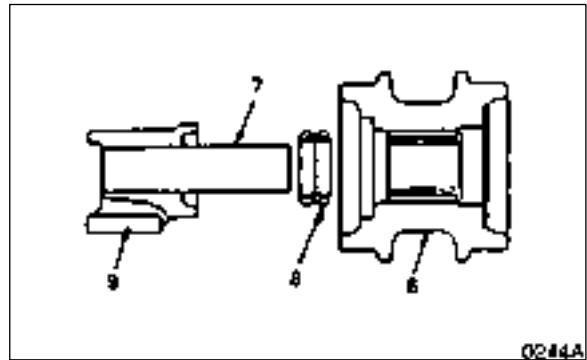

Figure 45
4. Separate the group seal (8, Figure 45) from the roller and bracket (9).